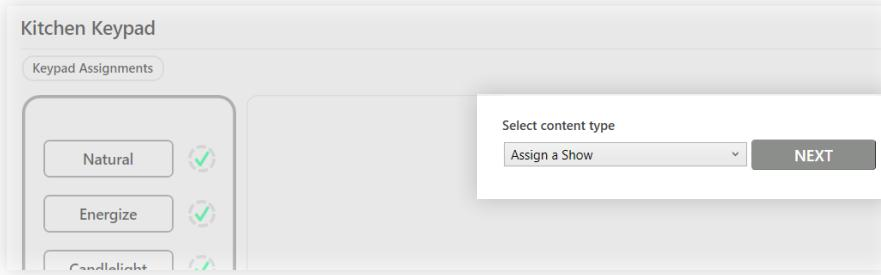

fig. 51
- 3 Select "Assign a Show" in the content type dropdown, then click NEXT. See fig. 51.